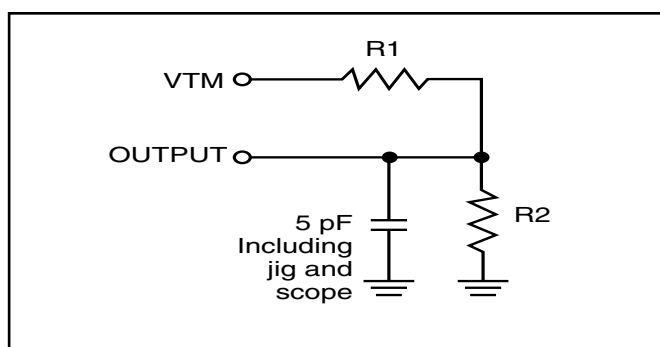

Figure 2.
2. Tested with the load in Figure 2. Transition is measured ± 500 mV from steady-state voltage. Not 100% tested.